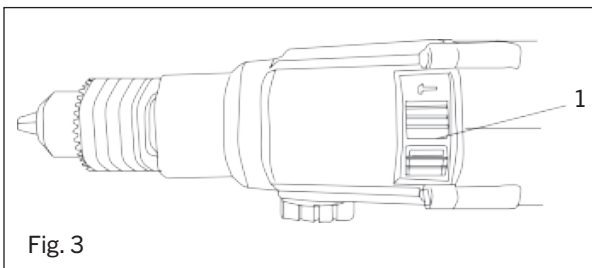

Fig. 3
The drill / impact hammer switch located on top of the tool (1) changes the drilling mode between conventional drilling and impact hammer mode for drilling concrete. To operate the drill in drill mode, turn the drill / impact hammer switch to the right. (Fig 3). To operate the drill in impact hammer mode, push the drill / impact hammer switch to the left to the hammer symbol (Fig. 3).